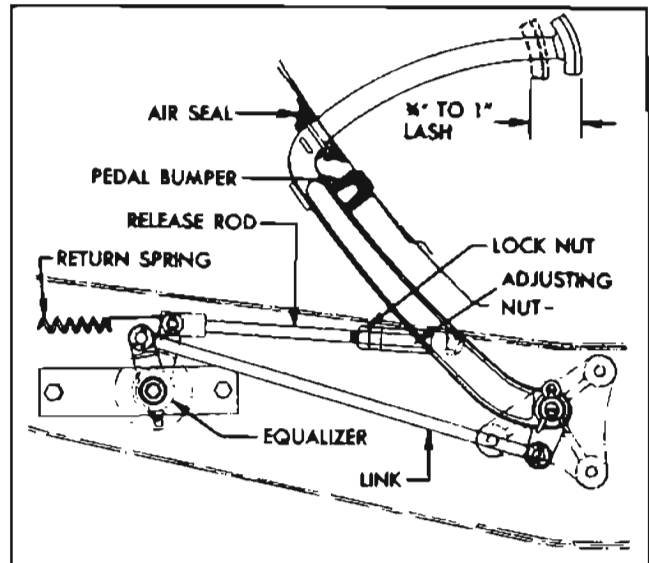

Figure 4-4—Clutch Pedal Lash Adjustment
First make certain that clutch pedal is adjusted for specified lash (fig. 4-4) and that pedal is not binding. One type of clutch slippage is sometimes wrongly diagnosed as due to a weak clutch spring. This slippage occurs during gear shifting and full engagement of the clutch is not obtainable until the engine speed is reduced. After full engagement is obtained no further slippage occurs during acceleration or under full load. This condition is usually due to the clutch driven plate hub sticking on the splines of the transmission main drive gear. Correction can be made by removing the clutch and thoroughly cleaning splines of driven plate and main drive gear then applying a light coating of Lubriplate.
3. If adjustment is necessary, loosen lock nut and turn adjusting nut on clutch release rod as required to secure $\frac{3}{4}$ " lash, then tighten lock nut securely. See figure 4-4.